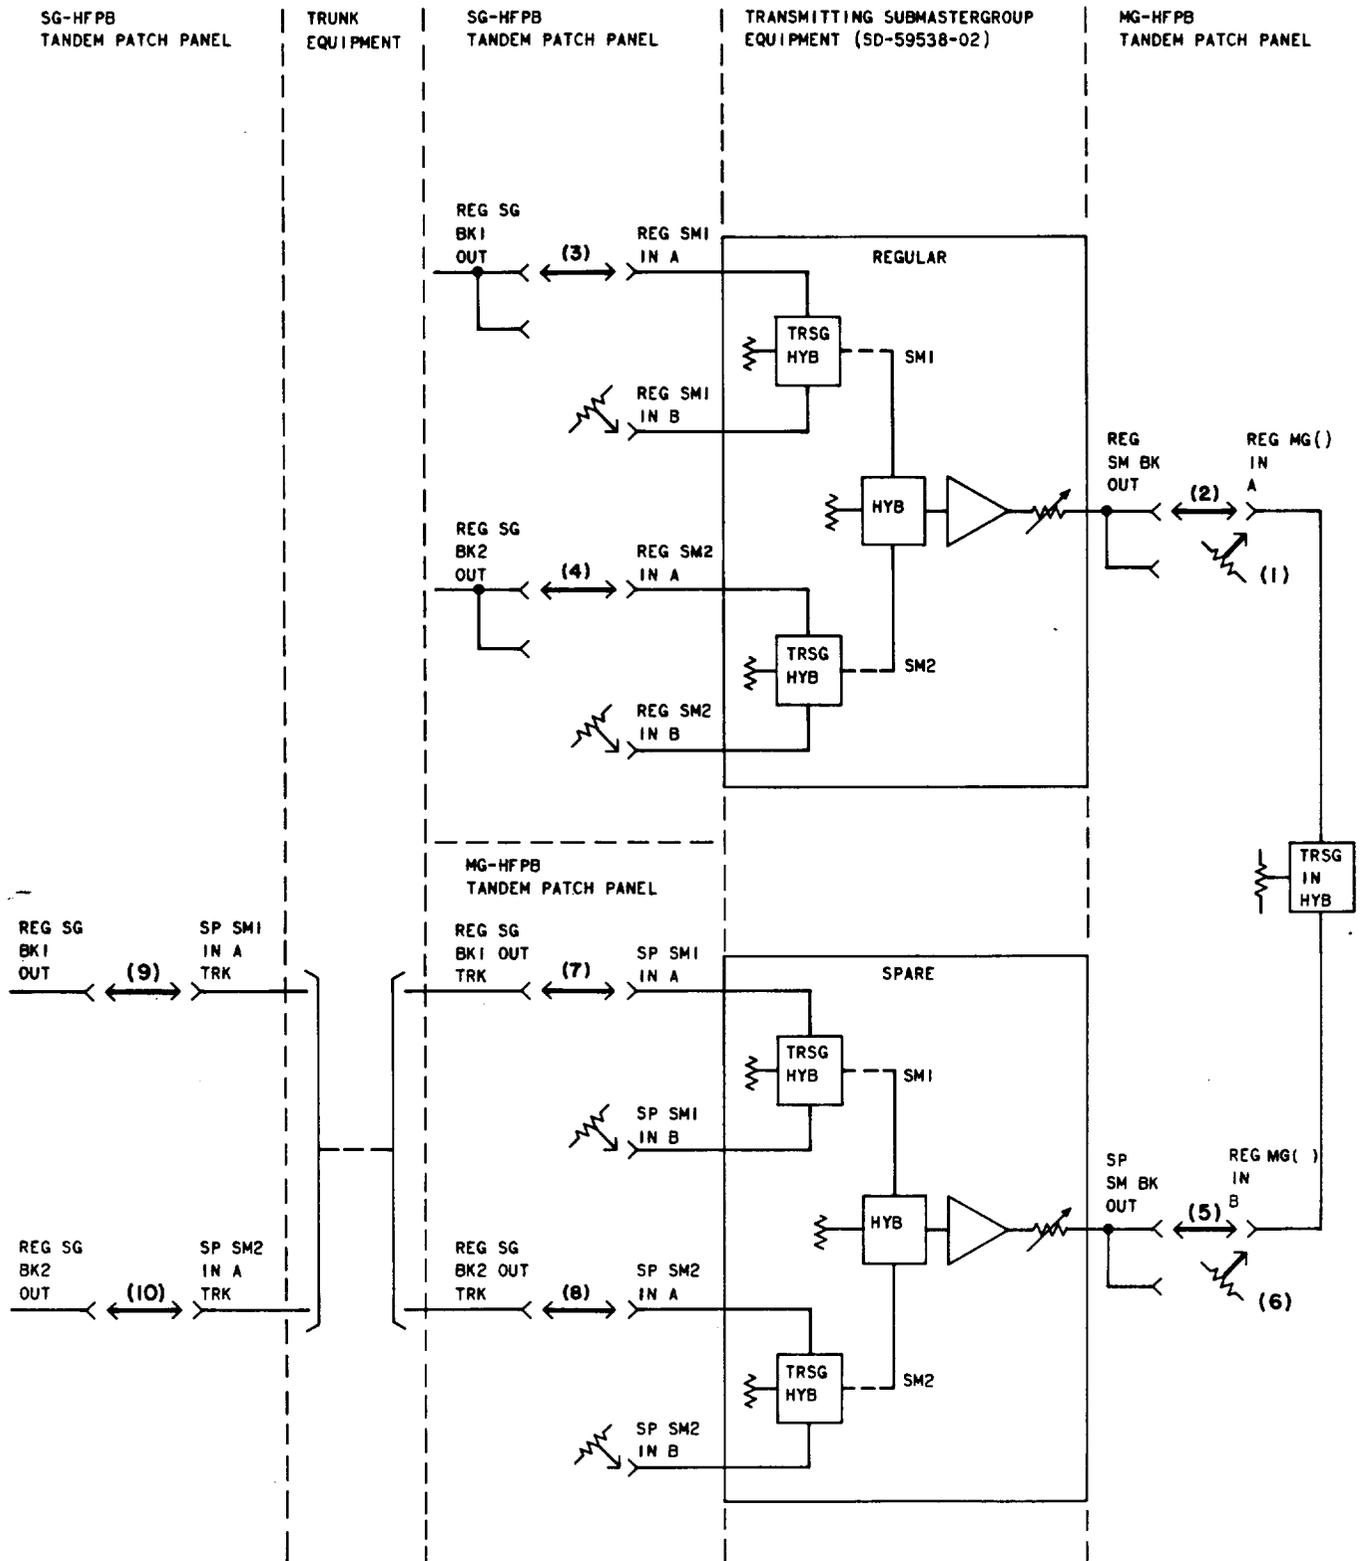

Fig. 4—Restoring Regular Equipment to Service—Patching Procedure
21	<p>At the transmitting tandem patch panel (MG-HFPB),</p> <p>(a) Remove the 372A plug from the SP SM BK OUT and REG MG( ) IN B jacks [patch (5), Fig. 4].</p> <p>(b) Insert a 358B plug into the REG MG( ) IN B jack [patch (6), Fig. 4].</p>
24	<p>At the transmitting tandem patch panel (MG-HFPB),</p> <p>(a) Remove the 372A plug from the SP SM1 IN A and REG SG BK1 OUT TRK jacks [patch (7), Fig. 4].</p> <p>(b) Remove the 372A plug from the SP SM2 IN A and REG SG BK2 OUT TRK jacks [patch (8), Fig. 4].</p>
25	<p>At the transmitting tandem patch panel (SG-HFPB),</p> <p>(a) Remove the 372A plug from the SP SM1 IN A TRK and multiple REG SG BK1 OUT jacks [patch (9), Fig. 4].</p> <p>(b) Remove the 372A plug from the SP SM2 IN A TRK and multiple REG SG BK2 OUT jacks [patch (10), Fig. 4].</p>